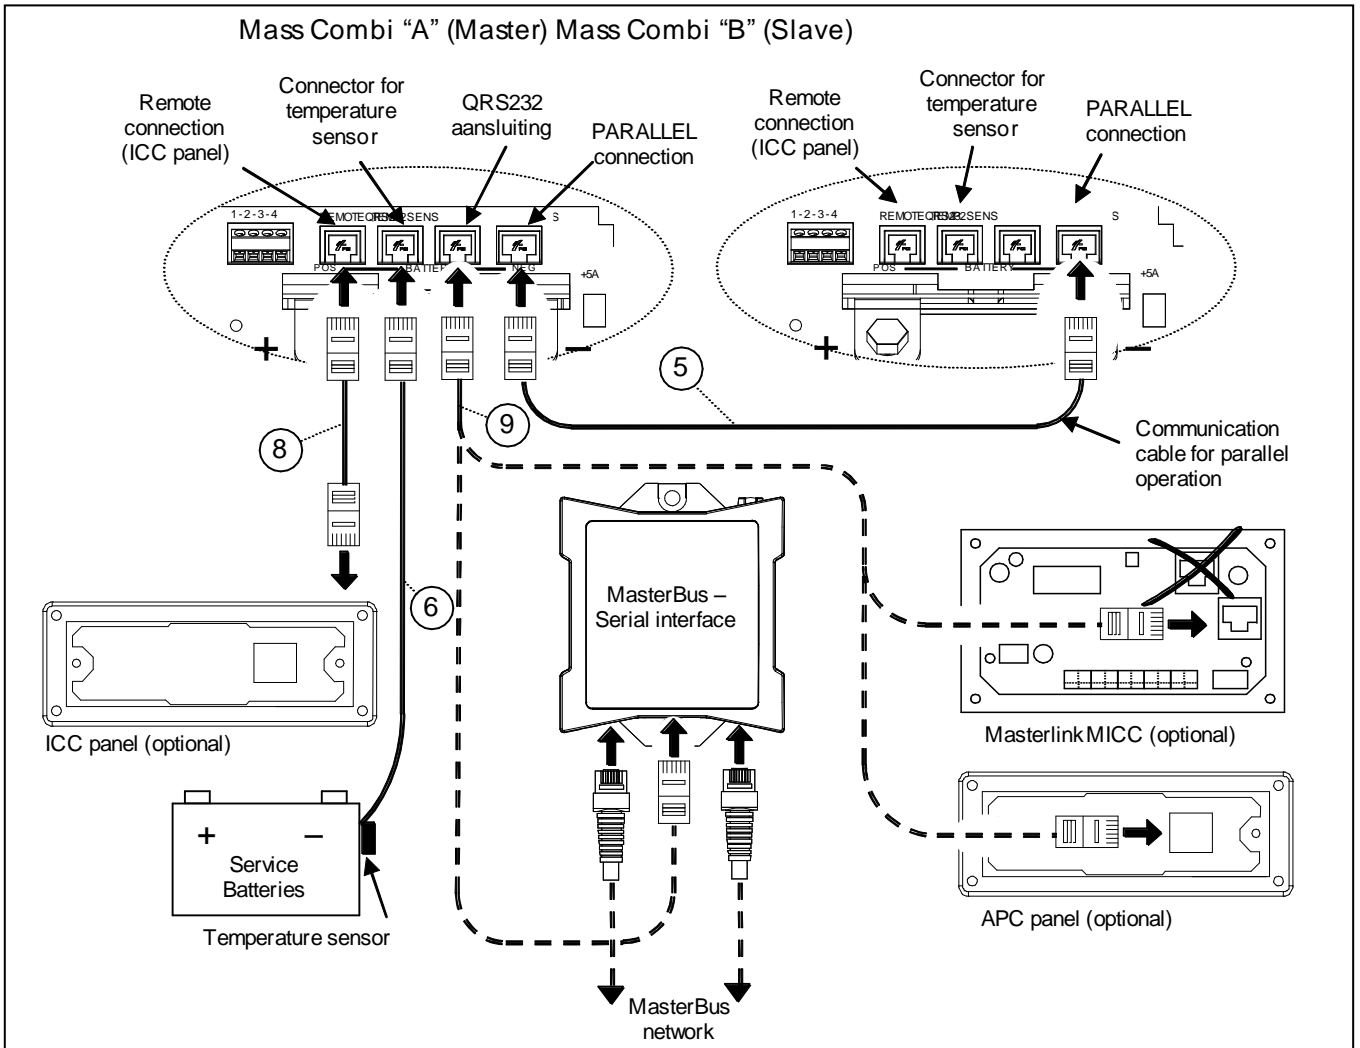

Figure 29: Connection of remote control panels, battery temperature sensors and communication cable for parallel operation
- 2 See reference ②. Connect the "AC output POWER" of Combi "A" to the power distribution group.
- 3 See reference ③. Connect the "AC output SHORT BREAK" of both Mass Combi "A" and Mass Combi "B" to the SHORT BREAK distribution. Beware that the L, N and PE / GND wiring may not be exchanged.
- 4 See reference ④. Run the DC-cables between the DC-distribution and each Mass Combi. Connect the red cable to the plus (+) connection, the black cable to the minus (-) connection. Do not install the DC-fuses of the DC-distribution before the entire installation is completed (see chapter 7).
- 5 See figure 29, reference ⑤. Run the modular 8-pole communication cable between Mass Combi "A" and Mass Combi "B". Connect this cable to the PARALLEL connectors.
- 6 See reference ⑥. Attach the temperature sensor to the battery and run the cable into Mass Combi "A" and connect the RJ12 connector to the "TEMP.SENS"-connector (Data Bus Connections)
- 8 See figure 29, reference ⑧. If you want to install the ICC remote control panel, run the communication cable between Mass Combi A and the panel. Connect the RJ12 connector to the "REMOTE"-input (Data Bus Connections) of Mass Combi A.